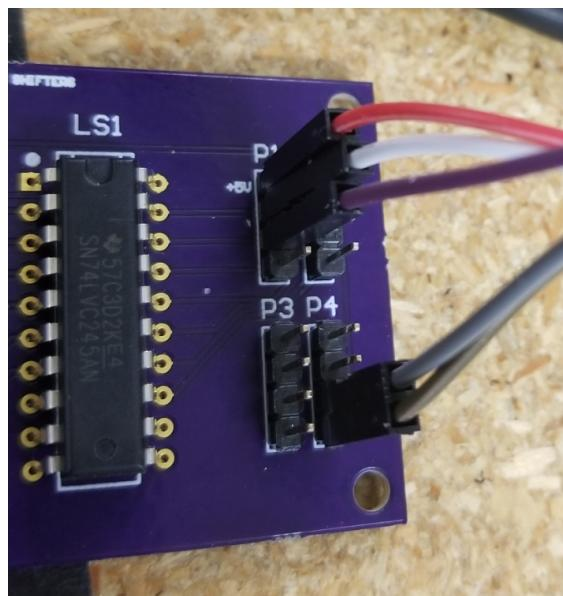

Figure 11: Board Connections
2. You need to run connections to the board now from the Raspberry Pi. Figure ?? shows which pins on the board are connected to which pin on the Raspberry Pi, with the exception of the purple wire, which will be using to test the signals and drive it from the 3.3V DC power pin on the Raspberry Pi. Figure 11 shows which of these we will need to start connecting the board to test.